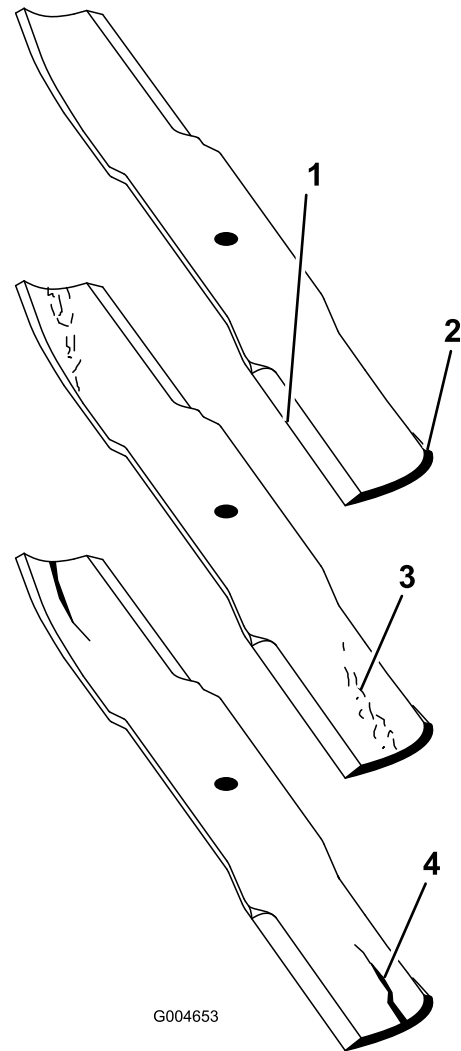

Figure 111
2. Examine the cutting ends of the blade carefully, especially where the flat and curved parts of the blade meet (Figure 111). Since sand and abrasive material can wear away the metal that connects the flat and curved parts of the blade, check the blade before using the mower. If wear is noticed (Figure 111), replace the blade.